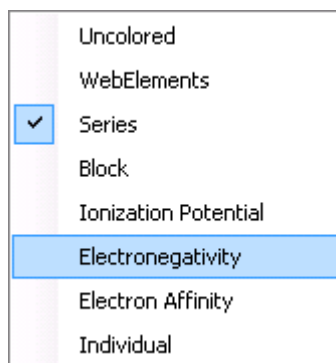

Figure 6-13. Context menu color schemes
6. Right-click next to the periodic table (but not on the table itself) to open the context menu, see Figure 6-13.